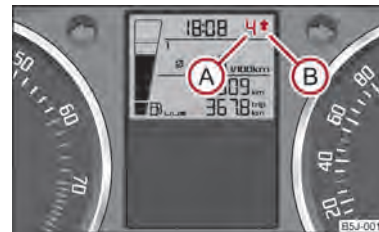

Fig. 4 Shift recommendation for changing gears
An information for the engaged gear (A) ⇒ fig. 4 is shown in the display of the instrument cluster.